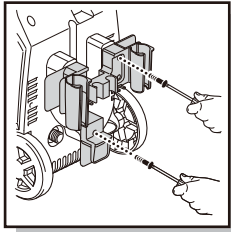

Fig. 1
- Install the accessory holder on the back of your BLUE CLEAN POWER WASHER (Fig. 1). You'll notice where the accessory holder meets the back of the unit. You will see several male index posts which fit into female holes. The posts and holes enable easy placement of the accessory holder and easy tightening of the screws. Place the screws in the holes provided on the accessory holder and screw them in. Do not use a power screwdriver. When the screw is completely tight, give a small final clockwise twist of the screwdriver. Do not over tighten.
- Using one of the supplied screws, install the small electric power cord holder below the accessory holder so that the “L” - shaped holder faces downward. The electric power cord can now be wrapped around the accessory holder and the bottom “L” - shaped holder while your power washer is not in use (Fig. 1).